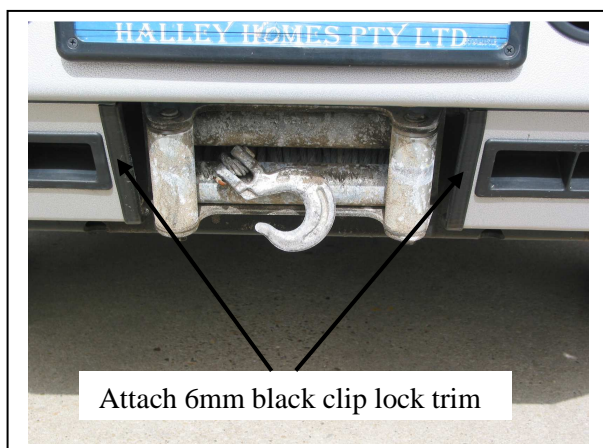

Figure 1
6. Attach the supplied 180mm lengths of 6mm black clip lock to roller fairlead cut out. **See figure 1.**